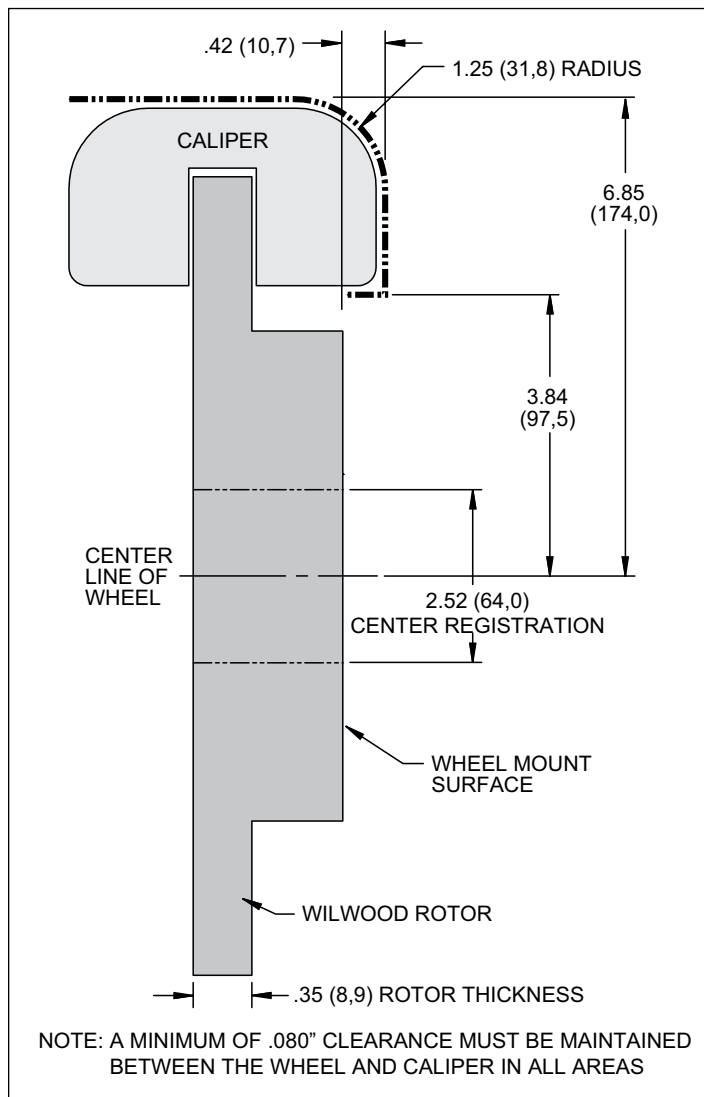
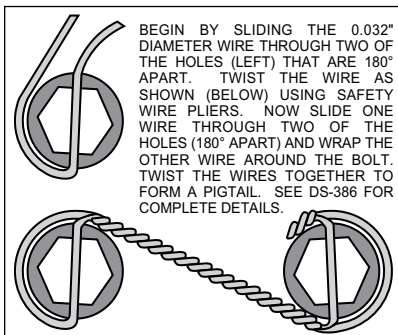

Figure 3. Wheel Clearance Diagram
Figure 4. Safety Wire Diagram
- Review the wheel clearance diagram (Figure 3) to verify that there is adequate clearance with the wheels you will be using with the installation.
- Verify your wheel clearance using Figure 3.
•Insert one sleeve (2) each into the holes on the top and bottom of the spindle “ears” where the OEM caliper bracket was removed. Apply red *Loctite*® 271 to the caliper mounting bracket bolt threads (4) before installation of the caliper mounting bracket (1). Install the caliper mounting bracket (1) with the threaded inserts and the beveled bolt holes facing the outside of the vehicle. Slide bolt (4) through washer (3) into the previously installed sleeve (2) from the backside of the spindle. Finger tighten. Repeat for the lower mounting hole. Torque bolts to 40 ft-lb. **NOTE:** Be sure the heads of the caliper bracket (1) insert nuts are facing outward toward the wheel.
•Attach the hat (7) to the rotor (6) using washers (8) and bolts (9) as shown in Figure 3. Apply red *Loctite*® 271 to the bolt threads and torque to 25 ft-lb using a criss-cross pattern. For an added measure of security, the bolts may be safety wired using standard 0.032 inch diameter stainless steel safety wire as shown in Figure 4. Please refer to Wilwood’s data sheet DS-386 (available at www.wilwood.com/Pdf/DataSheets/ds386.pdf) for complete safety wire installation instructions. Slide the rotor/hat assembly onto the spindle. Install three lug nuts (finger tighten) to keep the rotor/hat assembly in place while continuing with the installation.